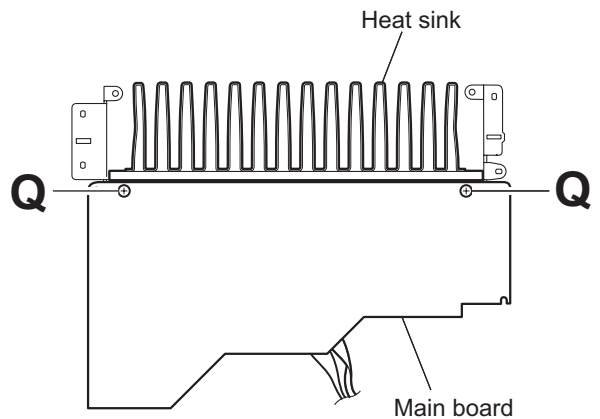

Fig.13
- (2) From the reverse side of the main board, remove the two screws **Q** attaching the heat sink. (See Fig.13)